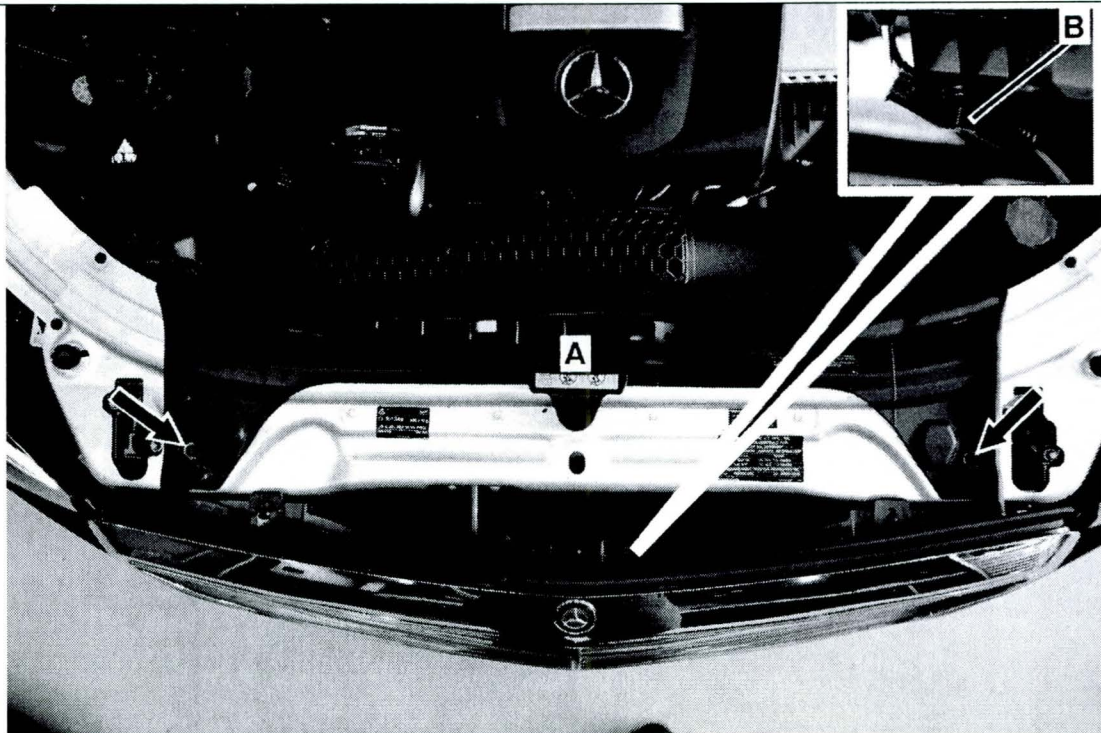

Figure 9
11.  Remove plastic rivets (arrows, Figure 9) then remove panel (A) over radiator support.
13. Secure illuminated star wiring harness to radiator grill using cable tie w/mounting clip (B, Figure 9).